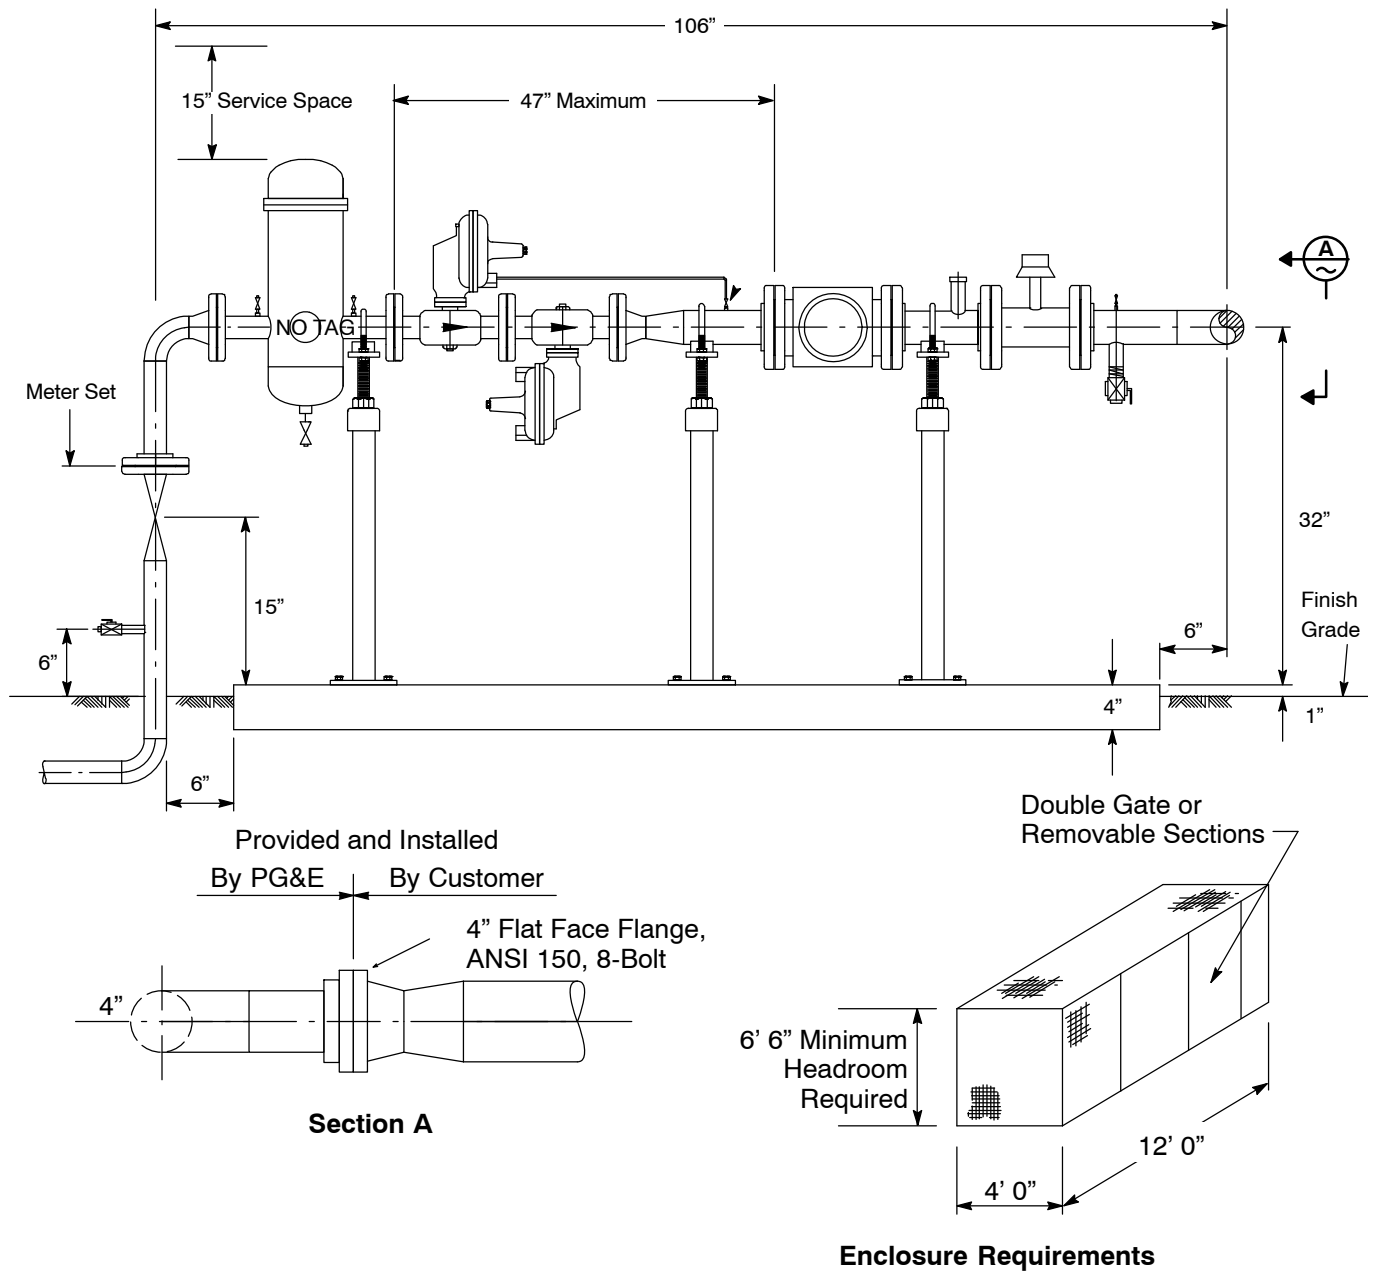

Figure 2-19
8. Figure 2-19 represents a rotary gas meter with 11,001 through 16,000 scfh at an approved delivery pressure.
Notes in reference to Figure 2-19.